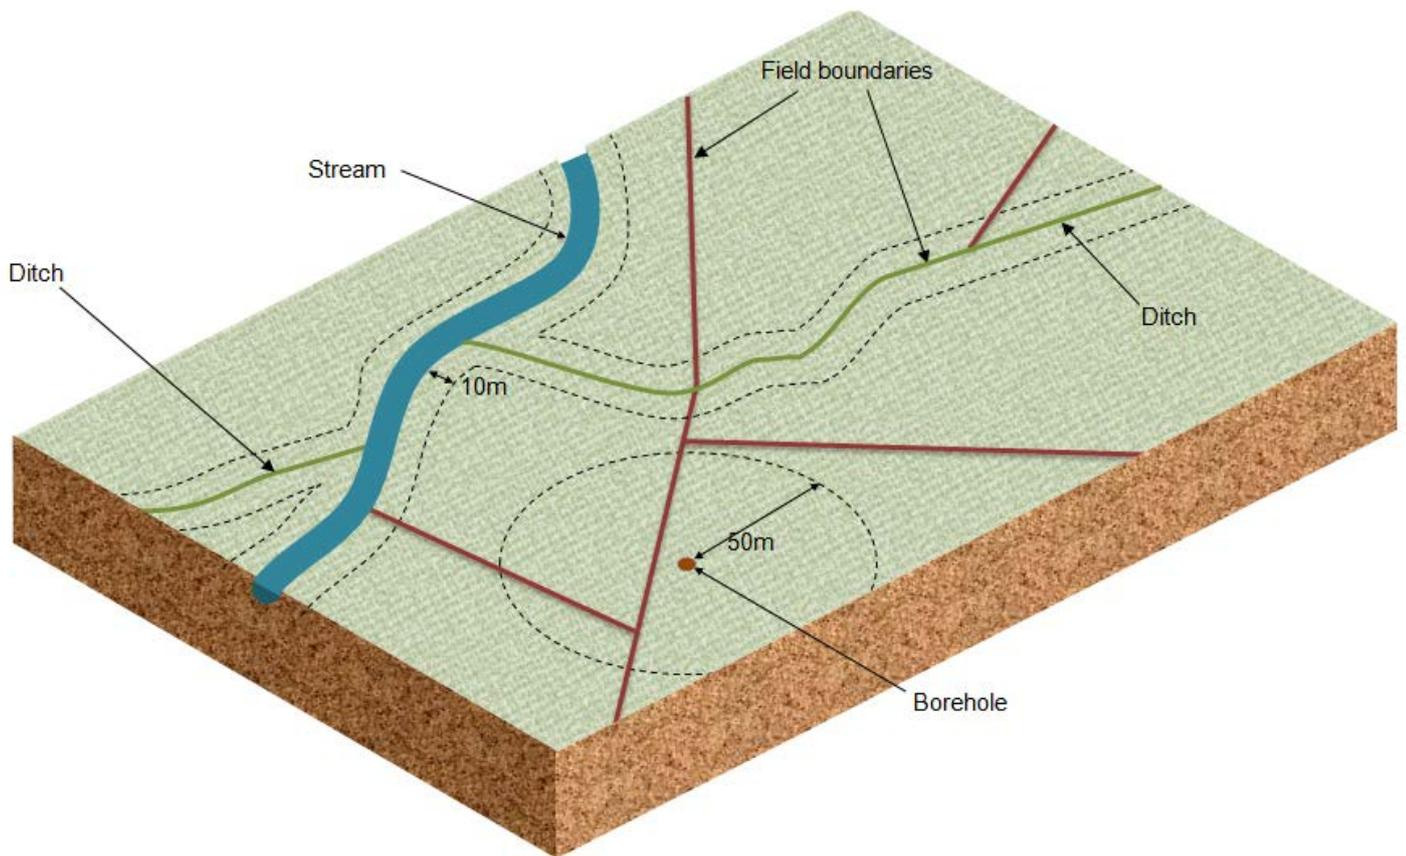

Figure 3: Areas on which organic manures must not be spread
- Identify where the following areas occur on your farm and colour them on your map in **red** (see Figure 3 below). Where an area is an unusual shape, for example circular areas around wells, mark off a square or 'practical' shaped area of the field.